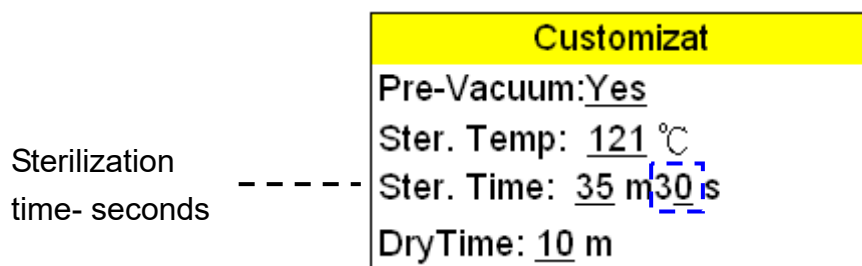

Figure 75
- Press  button to store sterilization time parameter as shown in Figure 75.